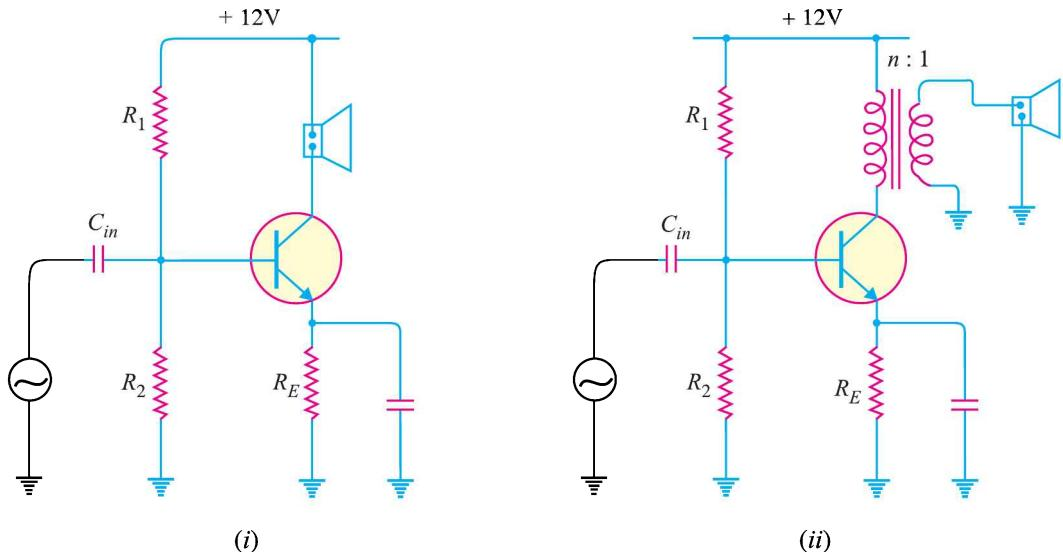

Fig. 12.9
- (i) **Loudspeaker directly connected.** Fig. 12.9 (i) shows the circuit of class A power amplifier with loudspeaker directly connected in the collector.
- (ii) **Loudspeaker transformer coupled.** Fig. 12.9 (ii) shows the class A power amplifier with speaker transformer coupled. As stated before, for impedance matching, step-down transformer is used.